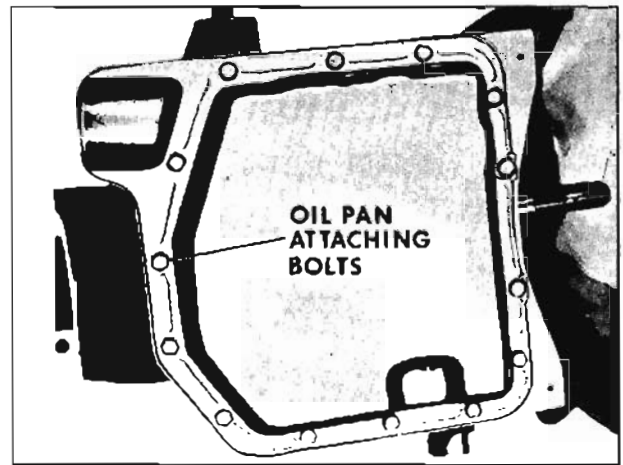

Fig. 6-474 Installing Oil Pan Attaching Screws
18. Install 14 oil pan attaching bolts. Torque bolts 10 to 12 ft. lbs. (Fig. 6-474)